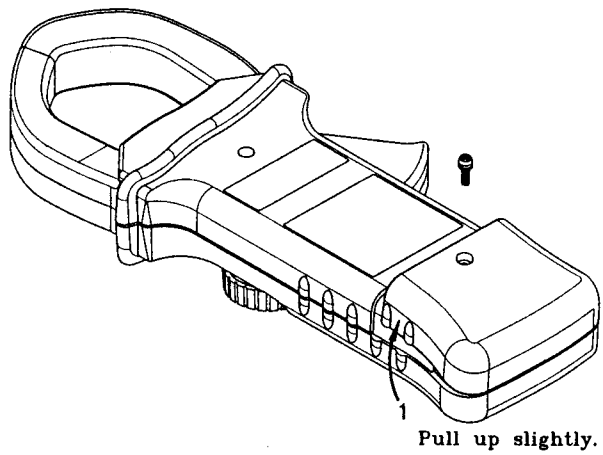
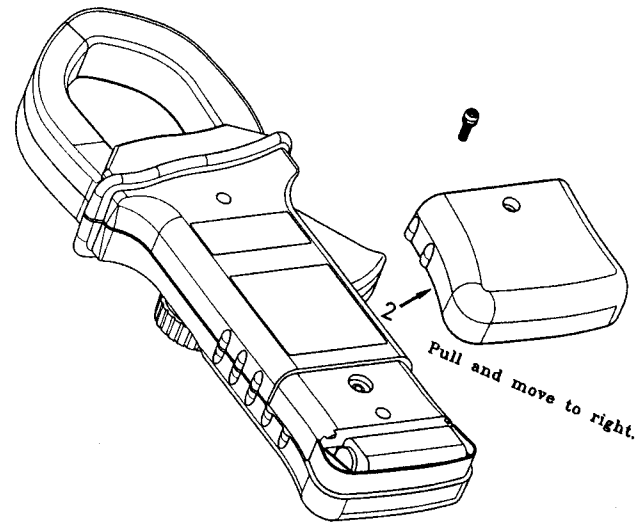

Figure 5. Step 1 of Battery Replacement.
Figure 6. Step 2 of Battery Replacement.
Push POWER switch to toggle ON/OFF transducer. When the transducer is switched on, the Green LED will light. When the Red LED is lit and the Green LED is off, the battery voltage is too low for normal operation. The battery should be changed as described in Battery Replacement. Refer to Figure 5 and 6 on page 18 and 19 respectively.
2. Loosen screw of battery cover. Pull up the cover slightly, see Figure 5. Then Pull and Move the cover to right direction, see Figure 6.